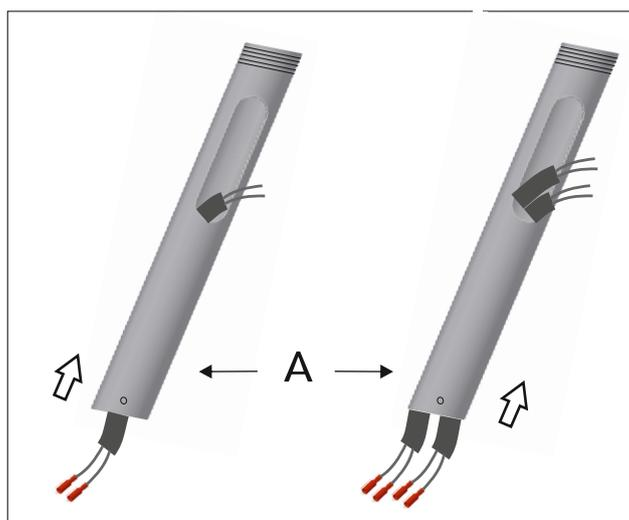

Figure 3
3 - Insert the electrical wires through the non-threaded end of the stem (A) and pull them out through the side hole at the upper part of the stem. Connectors must be at the opposite side of the thread. One stem should have one set of electrical wires. The other stem should have two. Figure 3.